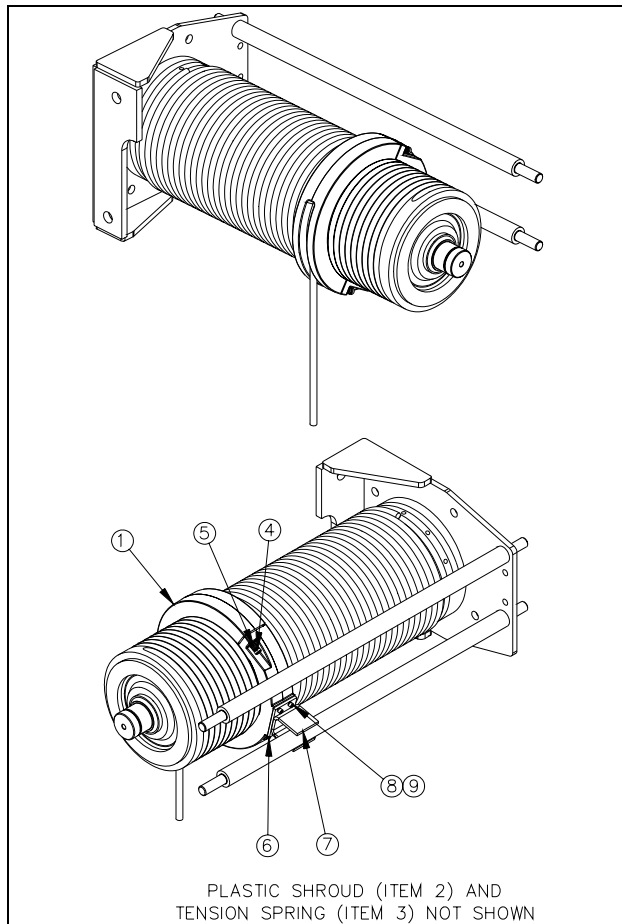

Figure 5-3. Rope Guide Assembly.
- b) Disassembly. Refer to Figure 5-3. For further assistance in locating components refer to the parts list in Section IX.
- (1) Remove socket head cap screws and lock washers (Items 8 and 9). Take off mounting clip (Item 7).
- (2) Remove shoulder bolts (Item 4) and compression springs (Item 5). The two halves of the rope guide body (Item 1) can now be pulled off the drum separately. When reassembling be sure that the half with the rope slot is on the top half of the drum.
- (3) Re-install rope guide over rope in rope drum grooves as shown in Figure 5-3. and outlined in Section V, Paragraph 5-6. Continue lubricating as rope is spooled onto the drum until about 28’-0” remain unwound.